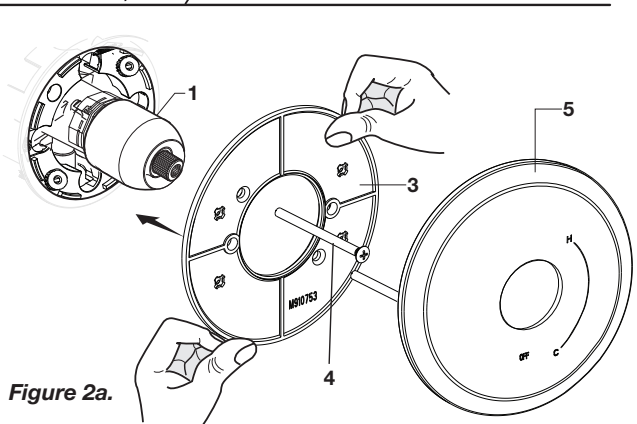

Figure 2a.
- **Figure 2a.** Push MOUNTING PLATE (3) onto CAP (1) and attach to valve body with LONG SCREWS (4).
- **Figure 2a.** Push ESCUTHCHEON (5) on to MOUNTING PLATE (3).